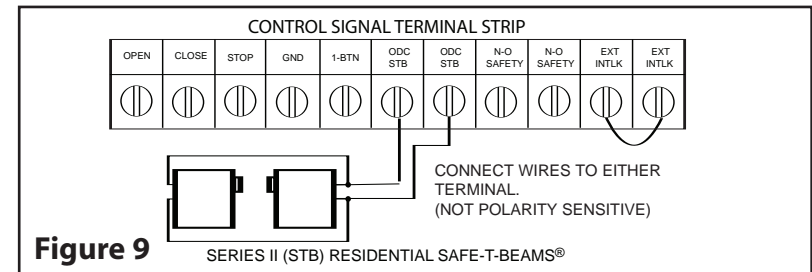

Figure 9
1) Monitored SERIES II (STB) photocells (P/N 35048R.S) can be installed as shown in **Fig. 9**. Wiring to these photocells can be connected to either terminal (Not polarity sensitive). (**Troubleshooting Sect.-- Appendix D**).